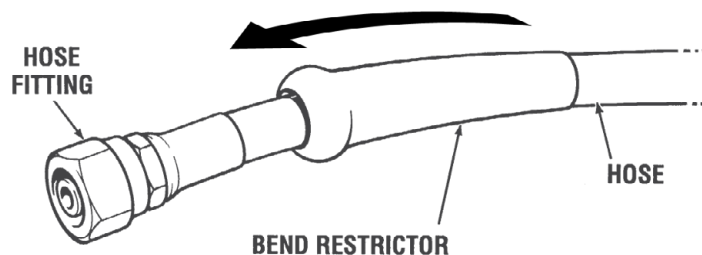

Figure 5-21.
2. Attach the hydraulic hoses to the SmartCylinder and slide the bend restrictor over the fitting as shown in figure 5-21. Torque fitting to 15 ft-lb. (20 Nm). If necessary, you can reposition the fitting on the cylinder. See section 5.5.3.